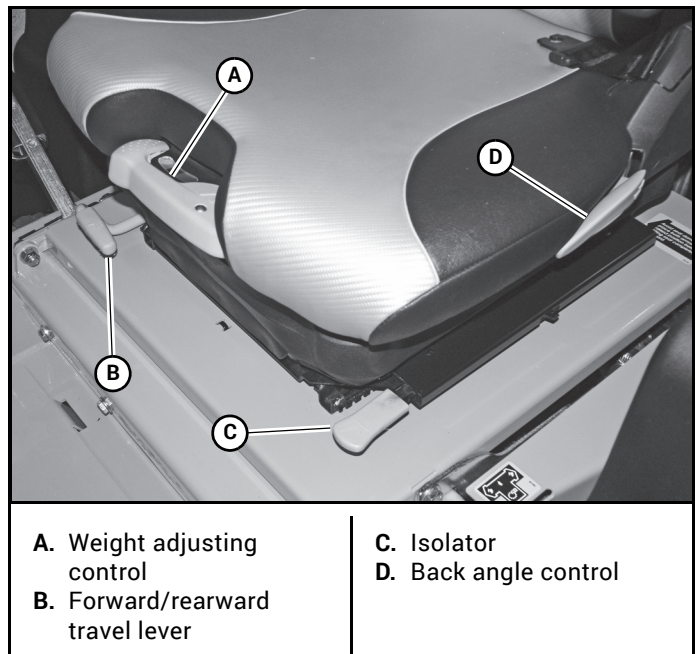

Figure 4-16
1. Back angle (Figure 4-16)
2. Forward and rearward travel (Figure 4-16)
3. Weight (Figure 4-16)
4. Isolator (Figure 4-16)